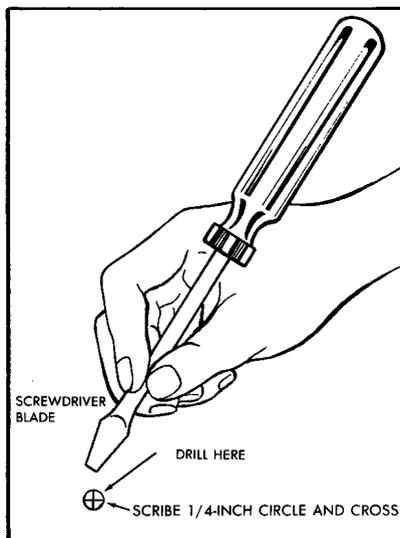

FIGURE 1.
4.03 When drilling holes in aluminum or steel siding for mounting protectors, knobs, clamps, etc., make a small circle on the siding using a sharp pointed tool such as the side of a screwdriver blade. Circle should not be larger than 1/4-inch in diameter. Scribe a cross within the circle. This will prevent enamel from chipping. See Figure 1.